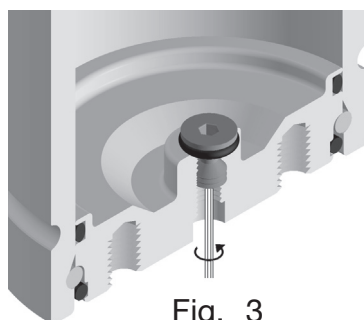
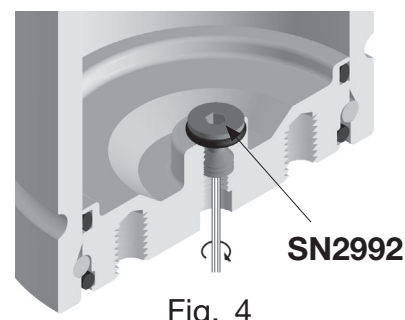

Fig. 3
Fig. 4
5. Proceed as described in fig. 3. To release pressure, turn the poppet valve SN2992 clockwise, one or two turns, until the gas starts to escape. Stop and wait until the gas has escaped. Then turn the poppet valve anticlockwise to close it again (fig. 4).